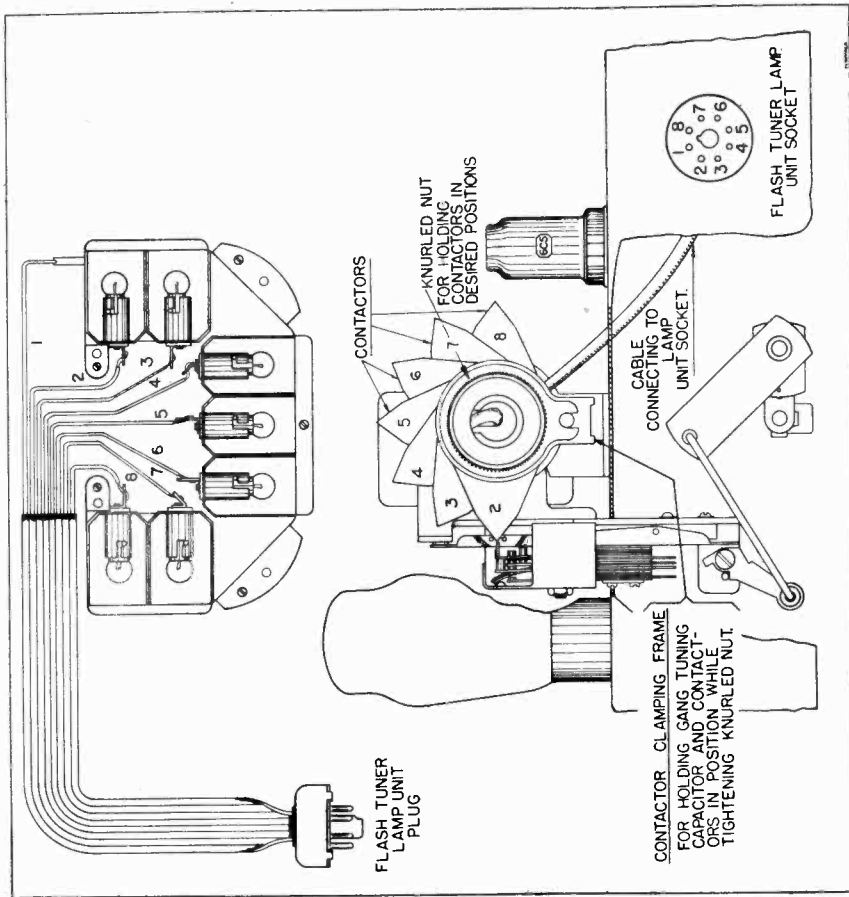

Fig. 3. Showing Flash Tuner Lamp Unit With Escutcheon Plate Removed (Top Figure) and Rear View of Receiver Showing Flash Tuner Mechanism (Bottom Figure).
- After carefully tuning in the desired station rotate the A. F. C. Control knob to the "On" position. Now, noting from Figure 3, the sketch which shows the contactor clamping frame and knurled nut, hold the clamping frame with one hand and loosen the knurled nut with the other hand. Then move the contactor, numbered 2, so that its point is engaged between the two small rollers of the switching mechanism as also shown in Figure 3. When the point is properly engaged between the rollers, the lamp of the lamp unit which is located behind the station letters of the station being tuned in will light. When this condition is obtained, retighten the large knurled nut and at the same time securely hold the gang tuning capacitor and the contactors from rotating by means of the extended portion of the contactor clamping frame. It is extremely important to keep the gang tuning capacitor and the contactors from rotating when tightening the large knurled nut.